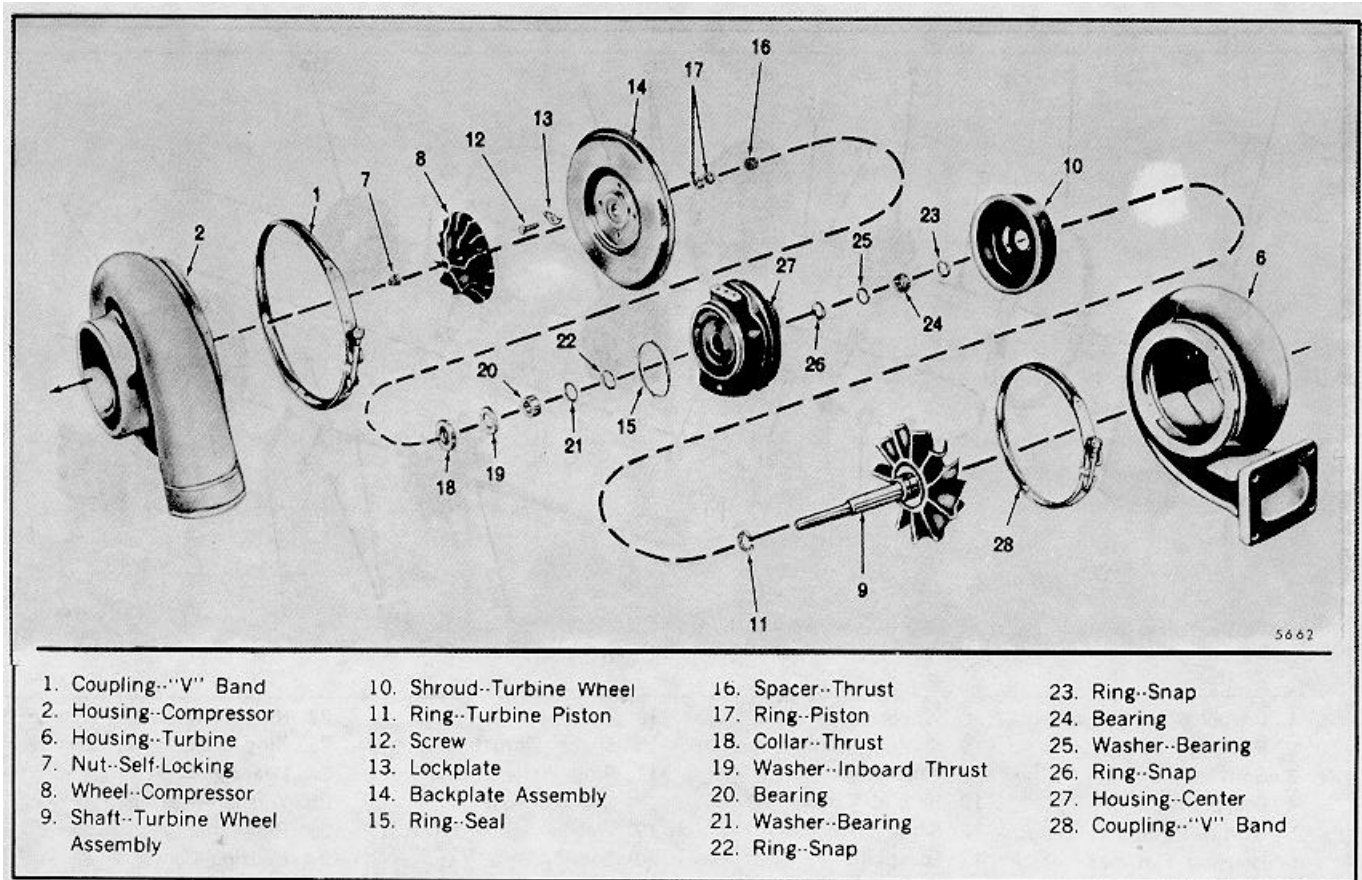

FIG. 7 - T18A40 Turbocharger Details and Relative Location of Parts
1. Refer to Fig. 7 or 8 and loosen the "V" band coupling (l) securing the compressor housing (2) to the backplate assembly (14) and remove the compressor housing and "V" band.
Refer to Figs. 7 and 8 for parts orientation and proceed as follows: